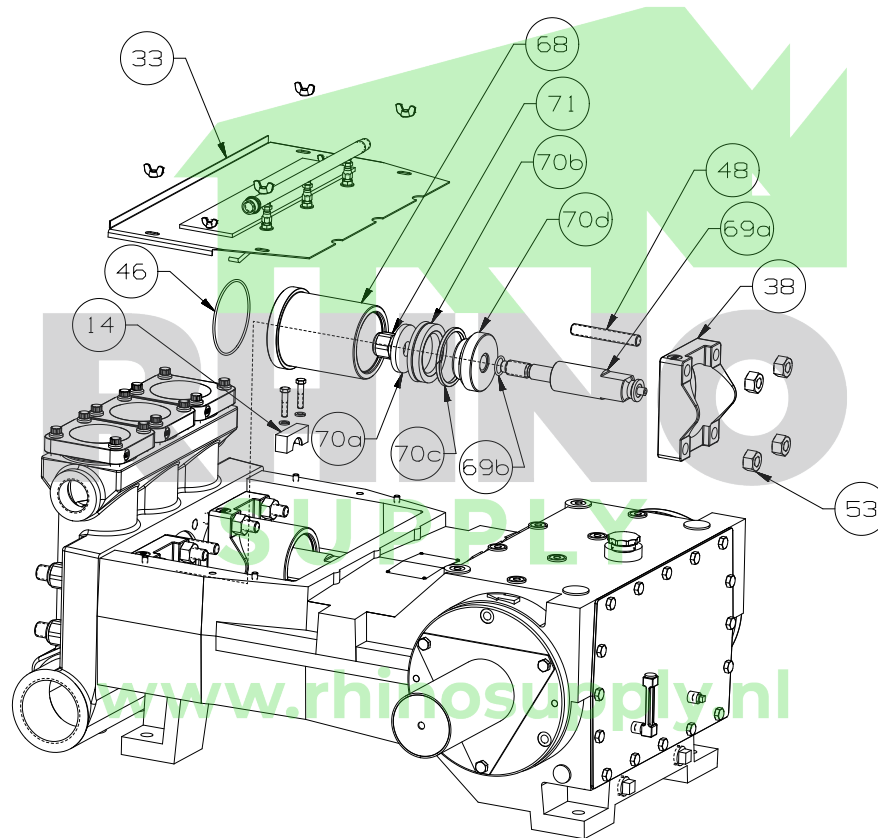

Figure 5: Piston and Cylinder Removal
2. Refer to Figure 5 for the location of components. Unbolt the plunger clamps (14) and remove them from the piston rod (69a).
3. Remove the nuts (53) holding the stuffing box/cylinder clamps (38) to the fluid cylinder. Rotate the crankshaft by hand until the plunger rod pushes the piston rod (1) to its forward most position (towards the fluid cylinder). Continue turning until the plunger rod is fully retracted from its piston rod.
7. Once separated, hold the flat section of the piston rod (69) with an open-ended wrench, crescent wrench, or vise and remove the nut (71) at the opposite end with another wrench.
8. The piston retainer (70a), piston cup (70b), wear ring, if equipped (70c), piston holder (70d), and o-ring (69b) can now be removed from the piston rod. Note the order and orientation of these parts upon disassembly and refer to Figure 5 for proper order and orientation.
9. Clean the piston cylinder (68) bore and wear ring (70c), if reused, with 120 grit emery cloth and solvent. Clean the piston rod (1) with steel wool or solvent and a soft cloth. Clean other parts such as piston rod threads and nuts as needed with a wire brush.
10. Inspect all parts for damage or unusual wear. Check for cracks or grooves in the interior surface of the piston cylinder (68). New piston cups (70b) will fail prematurely if installed in liners with damaged bores. FMC strongly recommends replacing all three piston cups at the same time, not just those which show signs of leakage. This will maximize operational time between service intervals.
11. Apply glycerin or mineral oil to the piston cylinder (68) bores. Clean the fluid cylinder counterbores and piston cylinder outside diameter that fits into the counterbore. Apply a light coat of oil or grease to sealing surfaces and o-rings.
12. Reverse the steps 2 through 8 to rebuild the pump after components have been inspected or replaced. FMC suggests that all seals or gaskets which are disturbed during a service procedure be replaced. This includes the piston cylinder face seal o-ring (46). Ensure that all fasteners are tightened to the values specified in Fastener Torque Requirements, Section 11.0 of this manual.